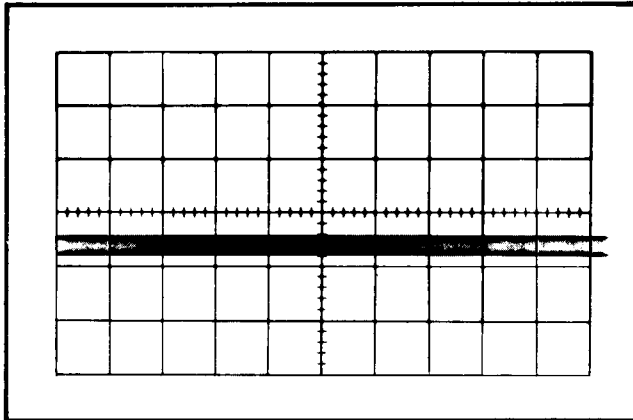

Fig. 6-31. Typical CRT display when checking common-mode rejection ratio.
e. CHECK—CRT display for 0.8 division deflection, or less (common-mode rejection ratio 10:1 or better; see Fig. 6-31).